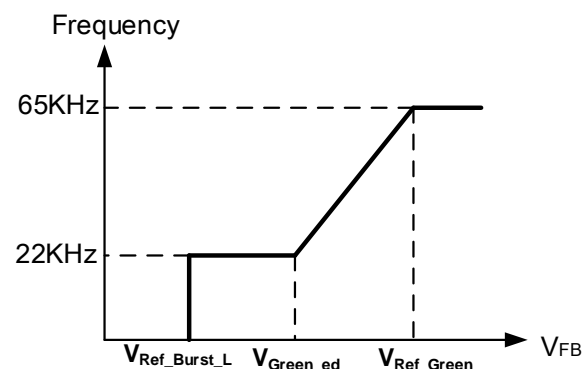

figure 1. Frequency vs.  $V_{FB}$
**(2). Green Mode:** The green mode is frequency reduction, which provide linear switching frequency reduction according to load conditions, as shown in figure 1. When the feedback voltage of FB pin is lower than  $V_{Ref\_Green}$ , the switching frequency starts to decrease. When the feedback voltage of FB pin lower than  $V_{Green\_ed}$ , the switching frequency is clamped at 22KHz. This frequency reduction mode function reduces power consumption under light load conditions, and easily meets even the strictest regulations.
**(3). Burst Mode:** During light load, switching loss will dominate the power efficiency. This mode is to cut switching loss. As shown in figure1, when the output load gets light, feedback signal drops and touched  $V_{Ref\_Burst\_L}$ , PWM signal will be blanked